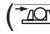

Figure 56. Example of spray gun in use.
3. Turn coolant pump switch to high-pressure setting (H) **ON**. Coolant will now spray when the trigger is pressed (see **Figure 56**).